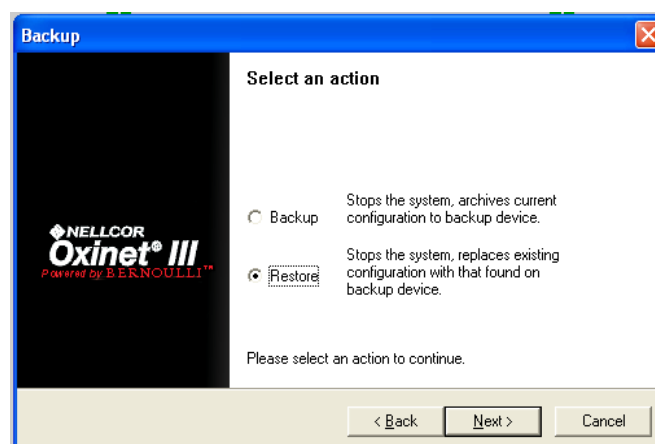

Figure 16: Backup/Restore Function — Select an Action
The *Select an action* screen appears (Figure 16).
- 3 Select the **Restore** option (Figure 16), then press or click the **Next** button.